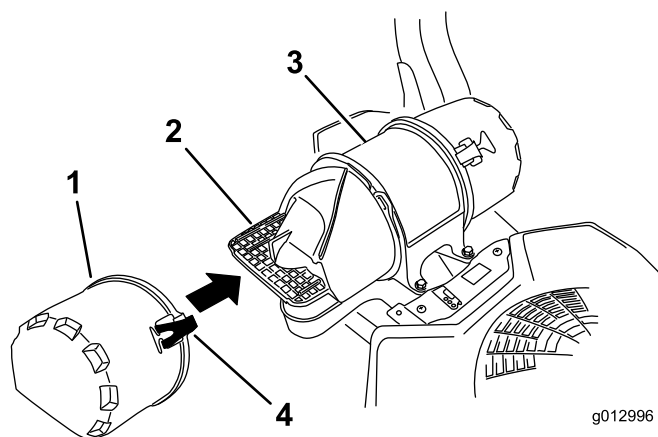

Figure 42
3. Release the latches on the air cleaner and pull the air inlet cover off the air cleaner body (Figure 42).
5. Install the air inlet cover and secure it with the latches (Figure 42).